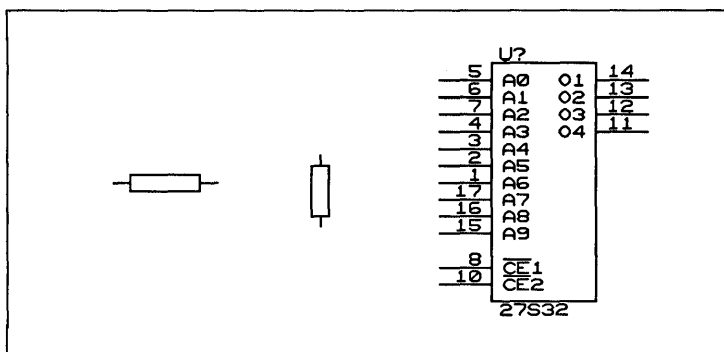

Figure 14-3. Parts with block bodies.
**Block** A block part is one whose body is a square or rectangle. For example, a memory chip is a block part. Figure 14-3 shows examples of parts with block bodies. A block part can be up to 12.7 inches by 12.7 inches in size.
Figure 14-3 shows examples of parts with graphic bodies.
*Pin number* If the part has pin numbers they appear outside the part beside the pins. Figures 14-3 and 14-4 show parts with pin numbers.